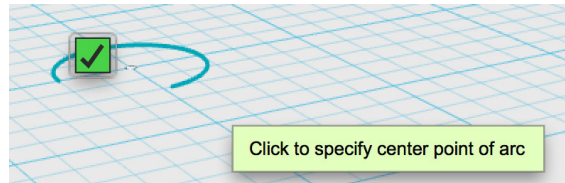

Figure 4-67 Exiting the arc of two points
6. And now you have a two-point arc! You can begin another arc on the plane, or click the checkmark to exit the Two-Point Arc tool (Figure 4-67).